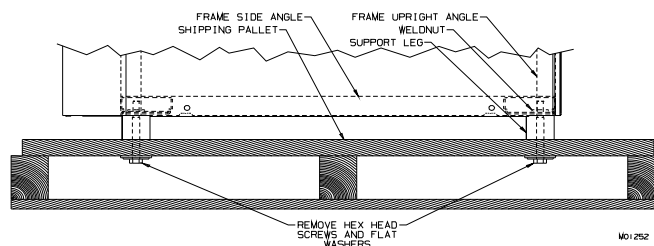

Figure 2-1 Machine bolted to Shipping Base
2. Remove the shipping bolts on the bottom of the freezer (figure 2-1) and install the legs.